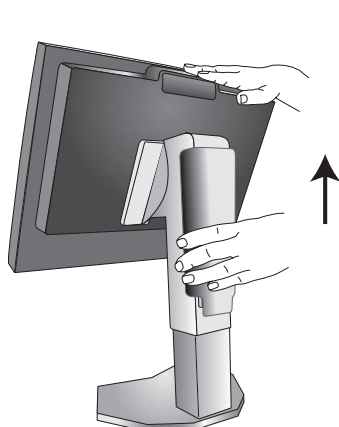

Figure S.1
3. Make sure to rotate the screen 90° counter clockwise to the landscape position (**Figure S.1**).